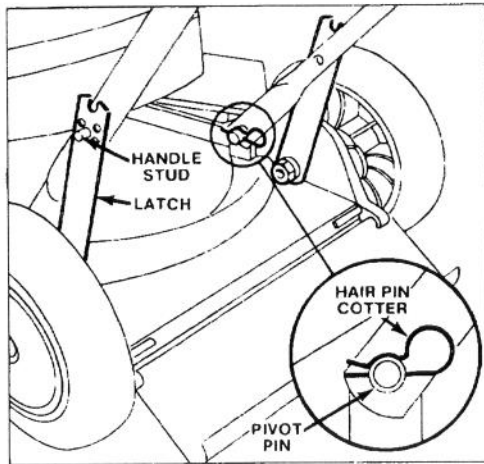

Figure 1
1. **LOWER HANDLES** (Fig. 1) — Push ends of handle together and install on pivot pins. Move handle and latches backward until handle studs snap into center hole. Push hair pin cotter through holes in pivot pins.